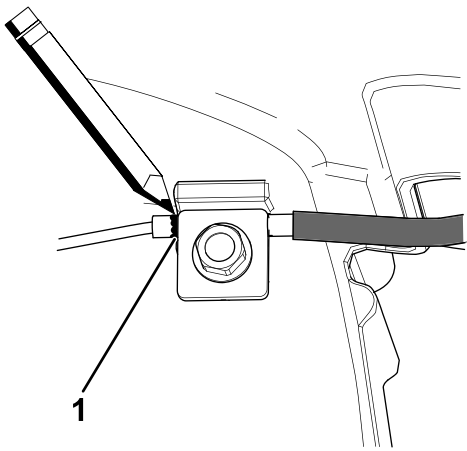
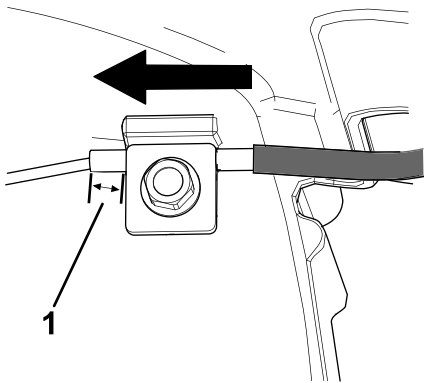

Figure 34
Figure 35
7. Mark the brake cable (Figure 34), then adjust the jacket until there is approximately 8 mm (5/16 inch) of slack (Figure 35).